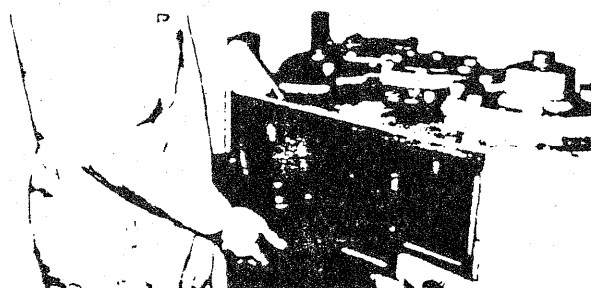

Figure 13
4. Slide the shaft completely away from the unit freeing all component parts on the shaft, Figure 13.